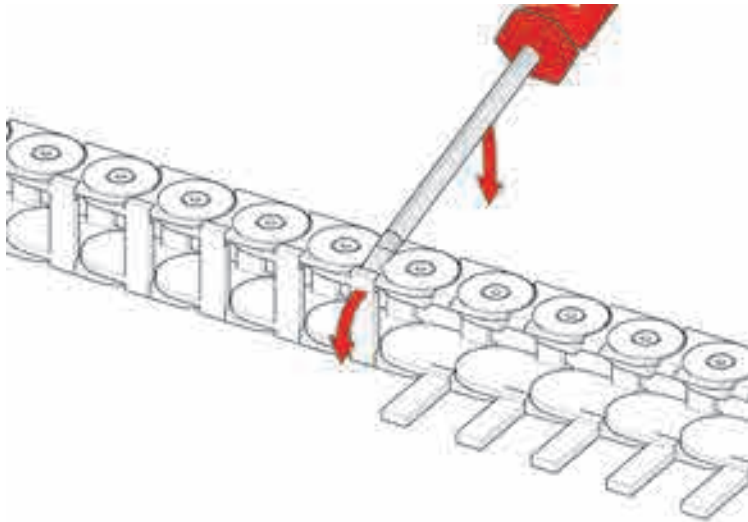

Figure 4-43 Unclip flaps from cable tray
1. Using a small 3 mm flat screw driver, unclip the flaps of the cable tray (see Figure 4-43 on page 127).